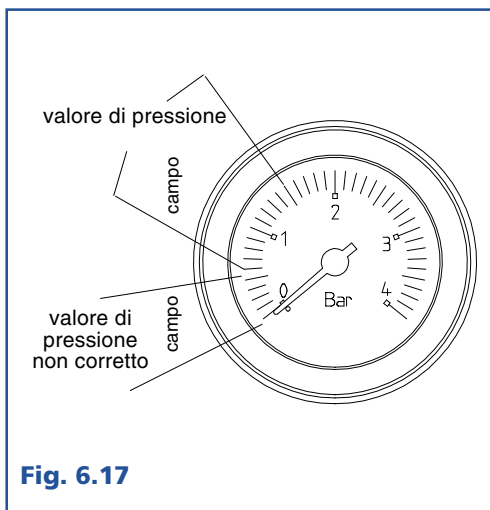

Fig. 6.17
6.3 Controllo (Fig. 6.17 - 6.18)